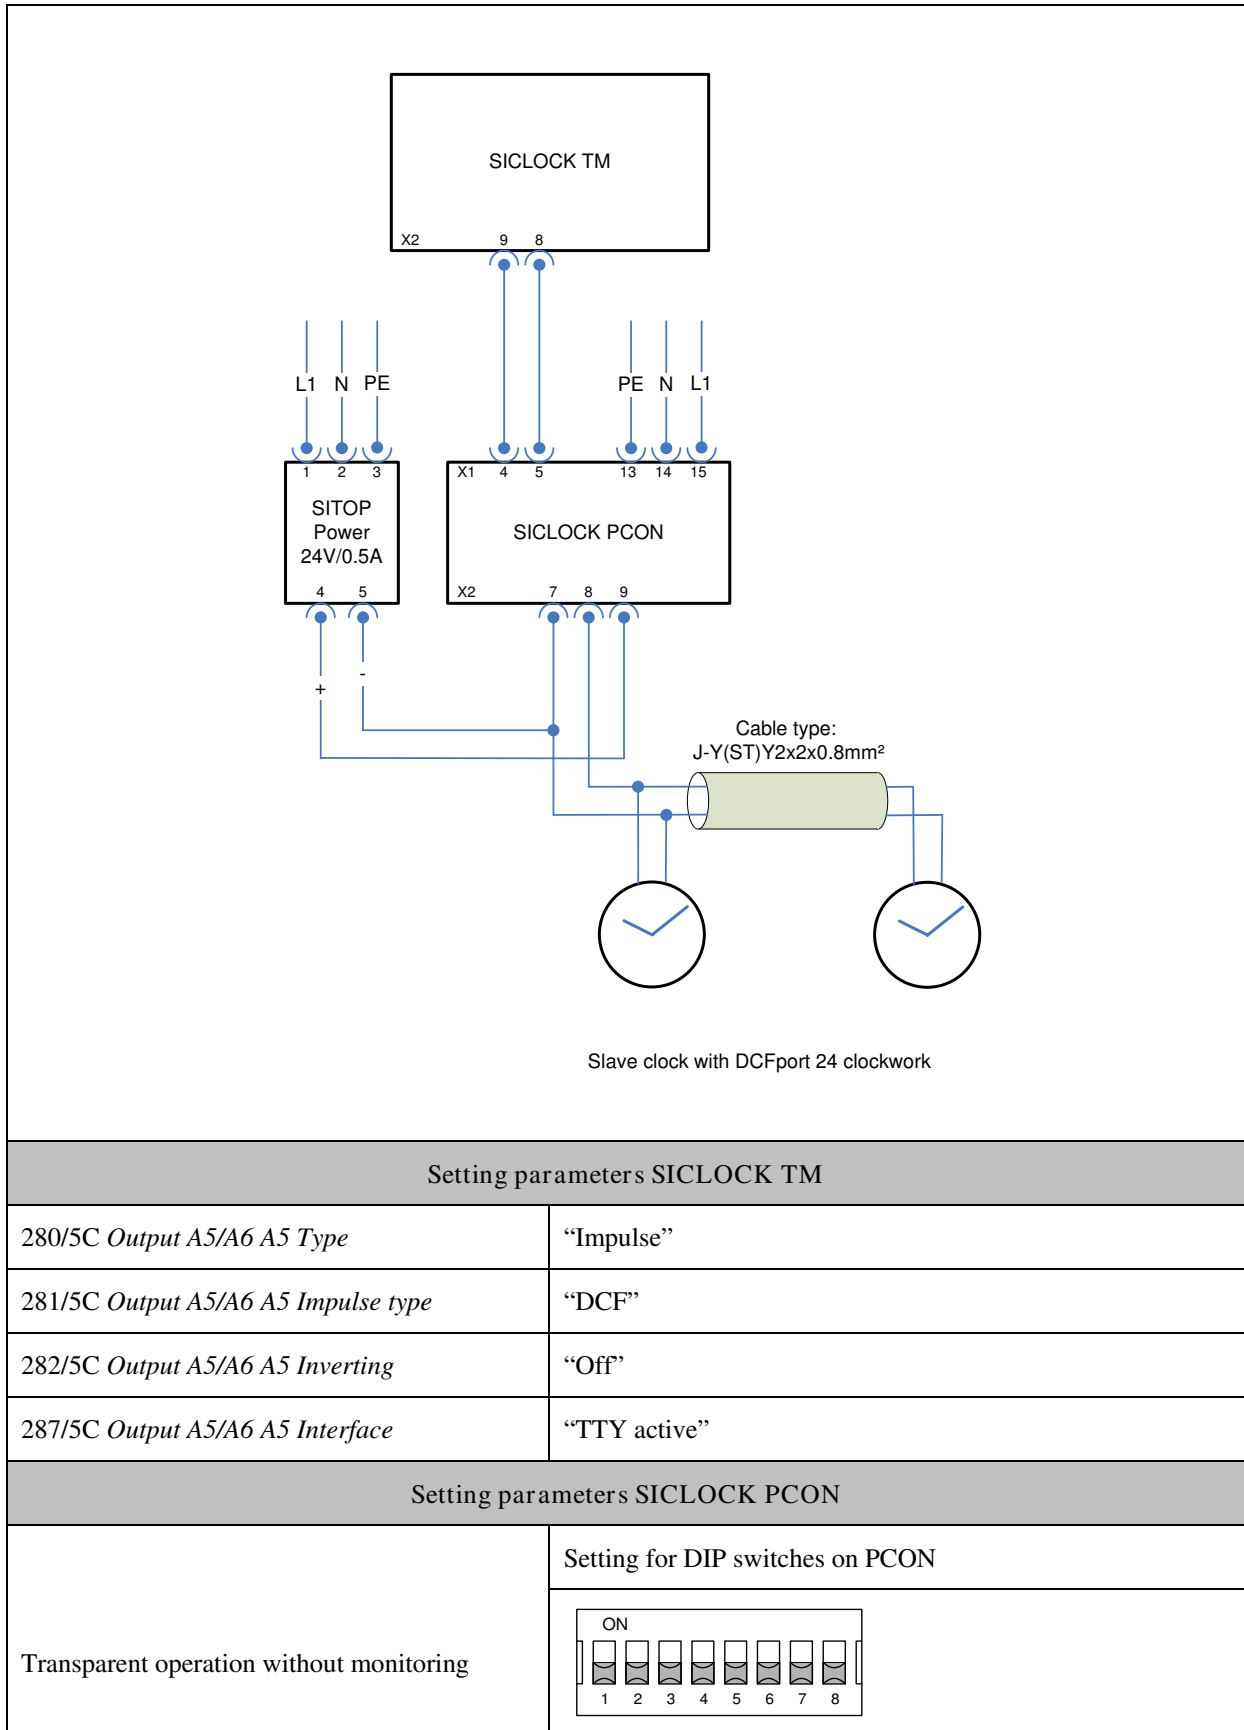

Figure 3-1: Wiring diagram and setting parameters for normal operation
- Setting parameters of the output (See Figure 3-1)
- Setting parameters by means of DIP switches (See Figure 3-1)